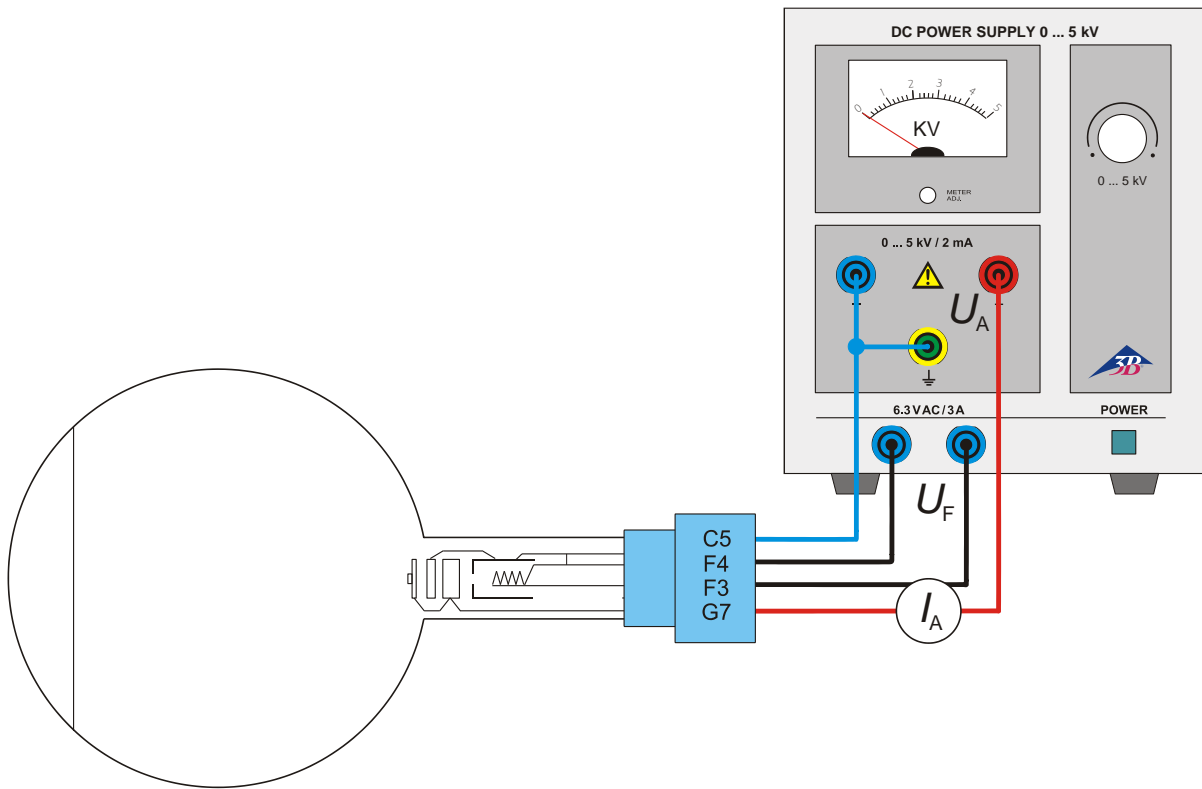

Fig. 2 Circuit diagram for the diffraction tube
- Set up the experiment as in Fig. 2.